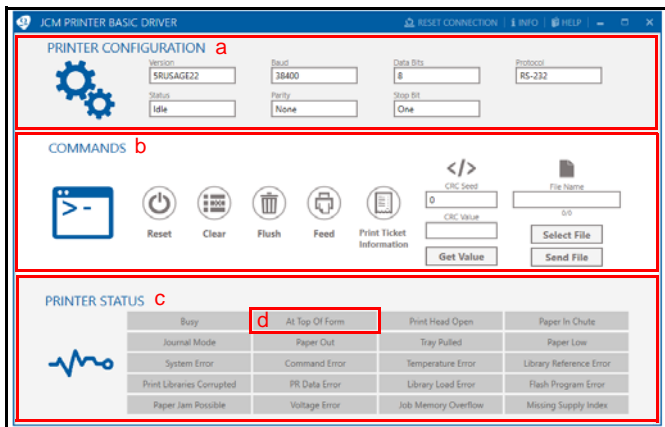

Figure 10 JCM Printer Basic Driver Main Screen
The JCM Printer Basic Driver Main Screen (Figure 10) displays three main sections:
1. PRINTER CONFIGURATION (Figure 10 a)
2. COMMANDS (Figure 10 b)
3. PRINTER STATUS (Figure 10 c)
PRINTER CONFIGURATION (Figure 10 a)
COMMANDS (Figure 10 b)
PRINTER STATUS (Figure 10 c)
NOTE: Any active condition appears highlighted in RED (Figure 10 d).